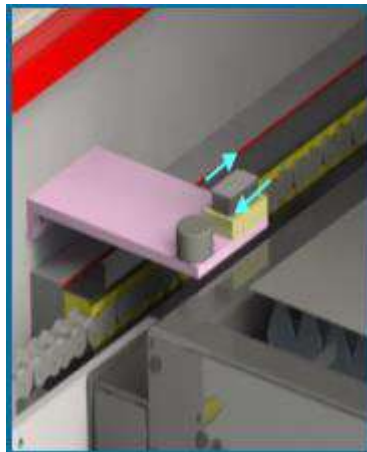

Figure 34
- **NOZZLE CLEAN:** This function is used to perform a nozzle cleaning manually. When this key is pressed the cutting head is moved to the cleaning station as shown **Figure 34** and after the head is gone down and it is stopped into the metal brush. After the vertical head movement is stopped in defined Z axis position the machine is moved to the head in X+ and X- direction. This movement is helped to cleaning the nozzle. When the cleaning is finished the cutting head raised up first to zero (retract) position and then moved back to interruption point automatically.